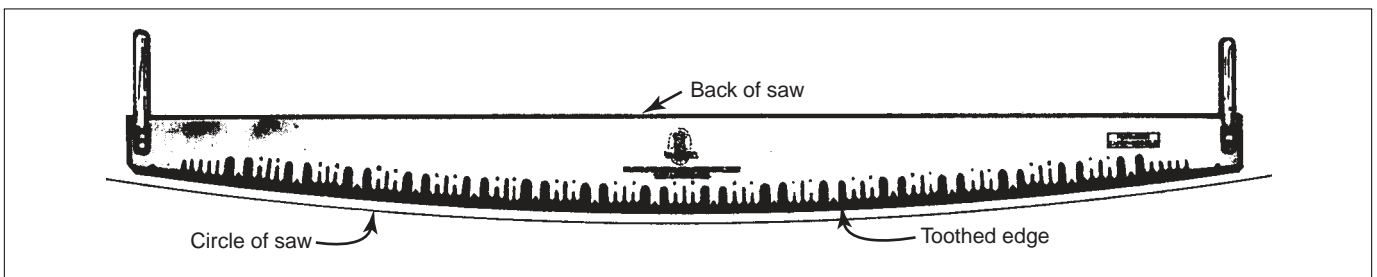

Figure 4-10—Circle of the saw.
**Jointing**—After the saw has been cleaned and straightened, jointing is the first step in sharpening. A tool called a jointer holds the file. The points are filed off the cutter tips so that each of them lies on the circle of the saw (figure 4-10).